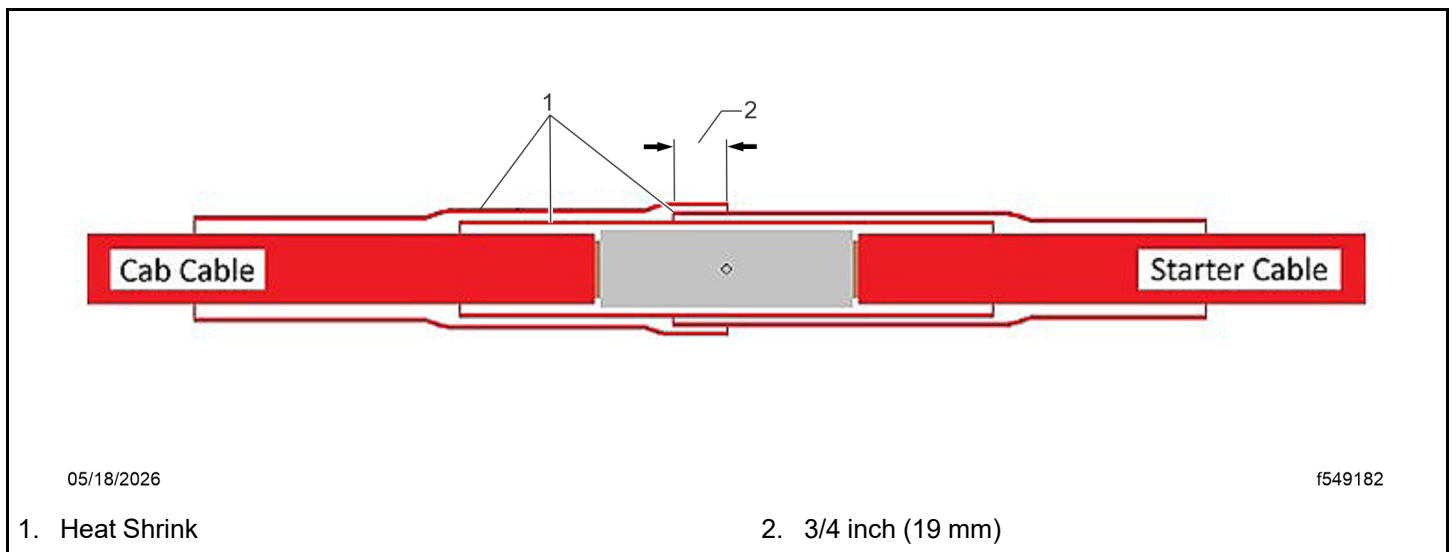

Fig 10, Heat Shrink Insulation
29. Insulate the butt connection with heat shrink sleeves. See Fig. Fig. 10.